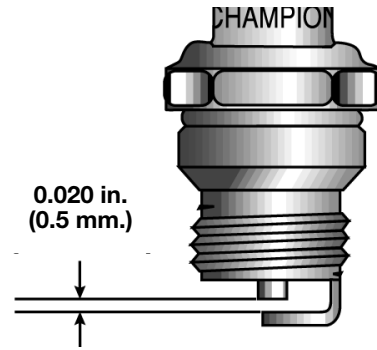

Fig. 39
3. Replace cracked, fouled or dirty spark plug. Set the air gap at **0.020 in. (0.5 mm.)** using a feeler gauge (Fig. 39).